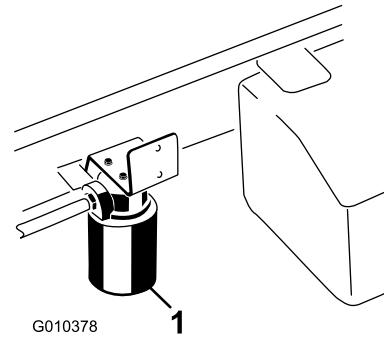

Figure 64
2. Clean the area around filter mounting area. Place a drain pan under the filter and remove the filter (Figure 64).